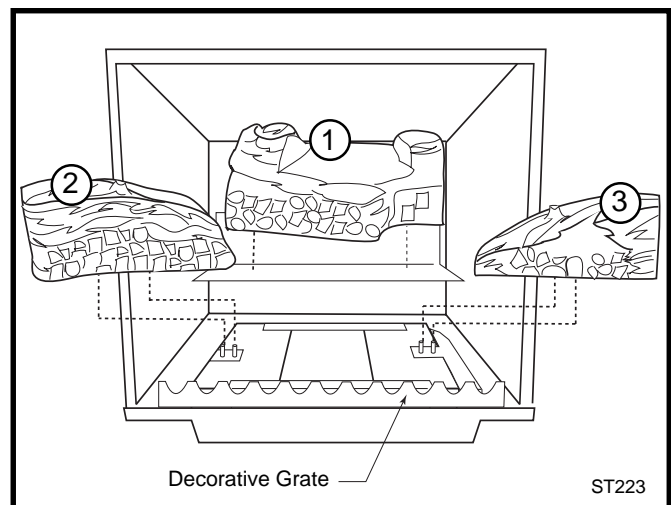

Fig. 14 Install back, left and right logs.
2. Install the rear log (1) by centering it side to side on the sheet metal shelf at the back of the firebox. (Fig. 14)
3. Install the left (2) and right (3) middle logs by engaging holes on their bottoms with pins on the burner brackets. (Fig. 14)